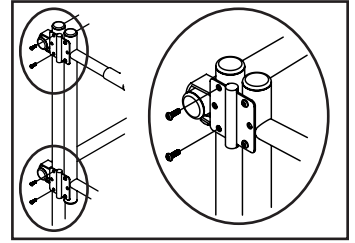

FIG. 4
- b.) Install both hinges of the hinged piece to the left hand corner post (Fig. 4)